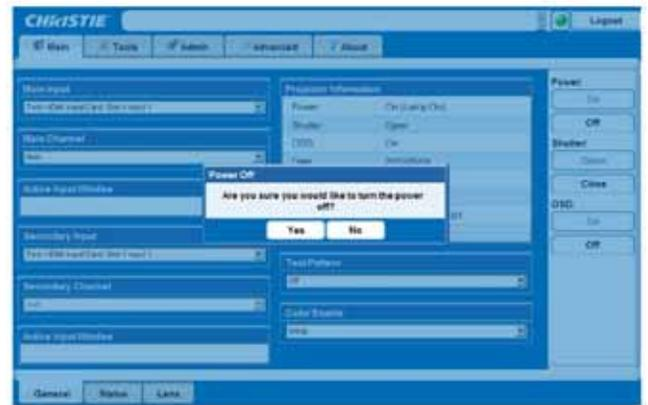

FIGURE 2-6 POWERING DOWN/WEB USER INTERFACE
**NOTE:** A window will display for confirmation on powering down, see **Figure 2-6**.